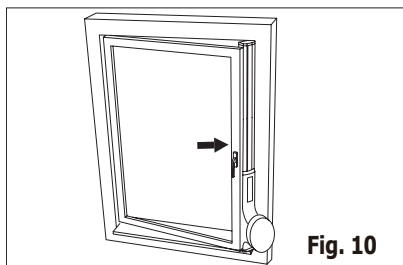

Fig. 10
2. Place the window slider kit on the window. Adjust the length of the window slider kit according to the height of window (Fig. 10).